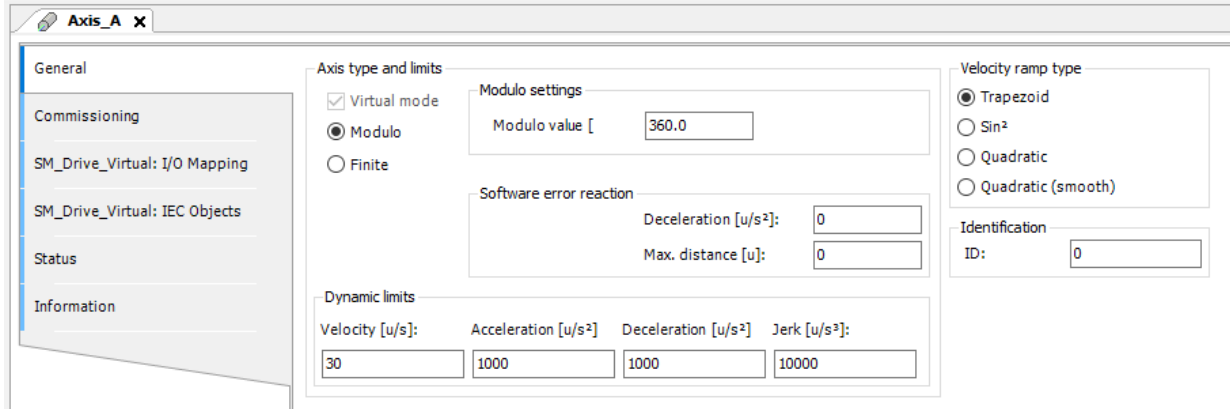

Figure 5.16: Cam task settings.
- Make the settings on the **General** tab of both axes created, as shown in Figure 5.16.